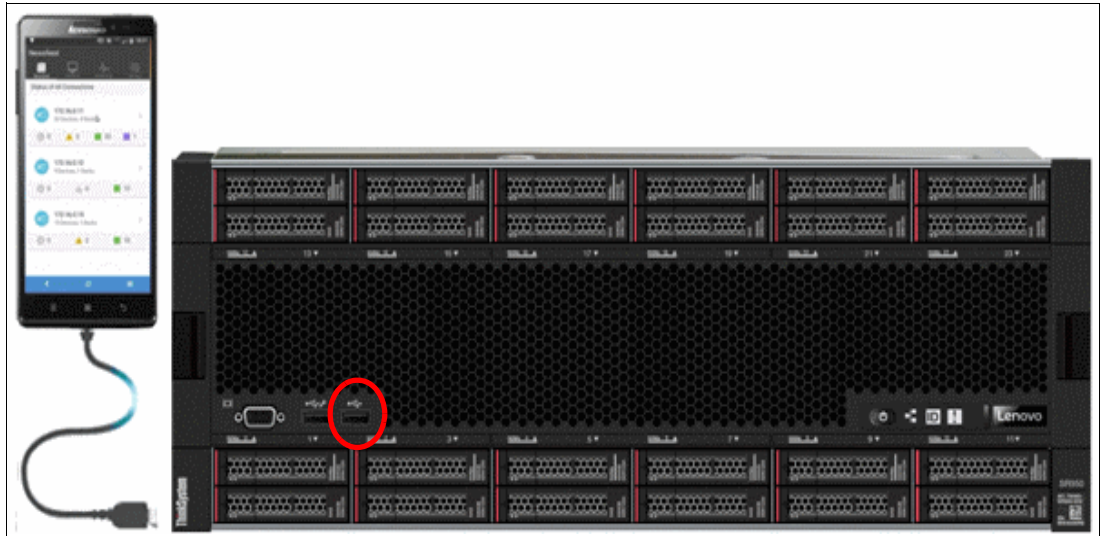

Figure 5-76 Connecting to the USB port
2. Connect your phone USB cable to the front panel USB port on the SR950 server, as indicated in Figure 5-76 on page 182.